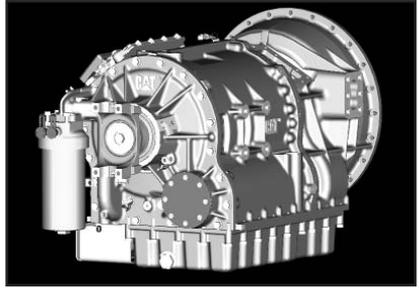

Fig. 1
1. Drain transmission oil before removing the rear aperture plate. After draining transmission fluid reinstall plug. **(Fig. 1)**
2. Remove the P.T.O. rear aperture plate with an 18 mm socket. **(Fig. 1)**